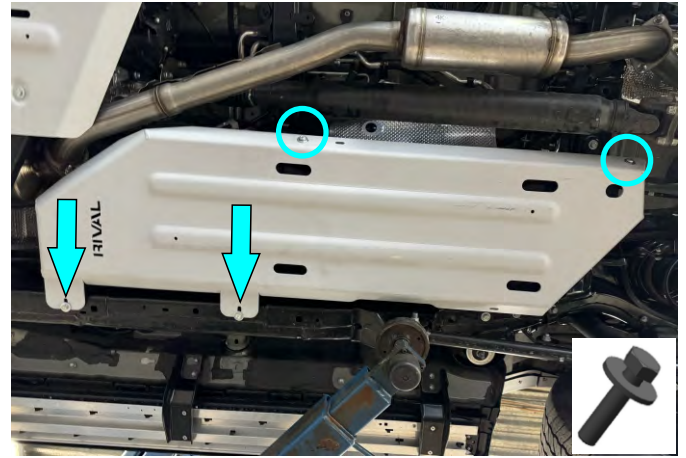

Fig. 6
4. Slide skid plate (item 1) on previously installed bolts M8 and secure it using bolts M8x25 and washers M8 (items A, B) as shown in fig. 6.